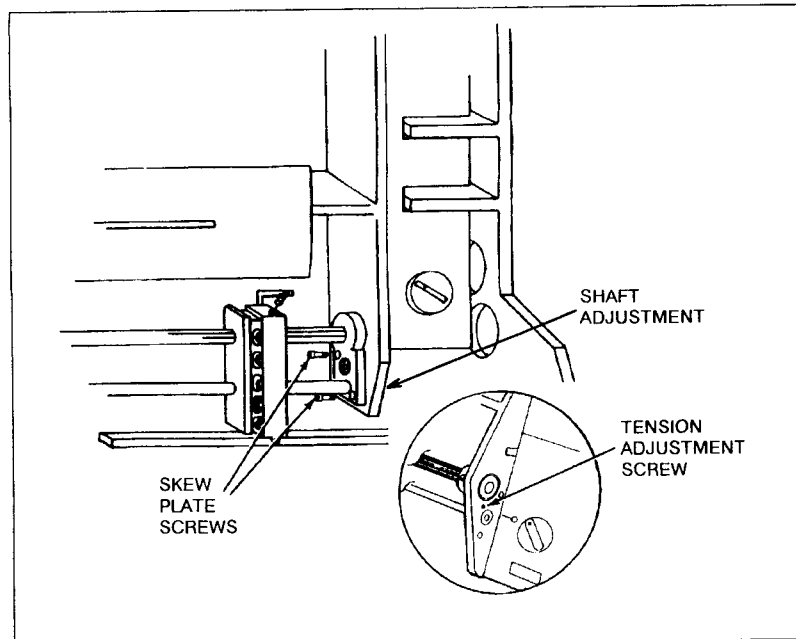

Figure 5-12. Paper Path Skew Adjustment
2. Loosen the two screws that hold the Lower Tractor Skew Plate (see Figure 5-12).